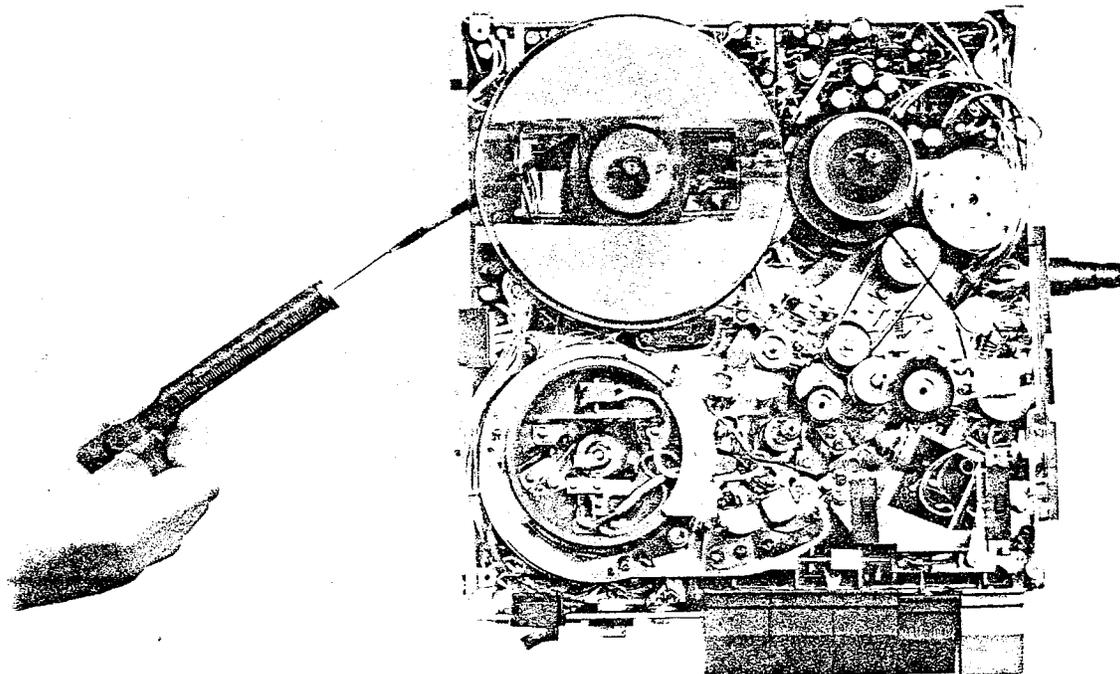

Fig. 7 Tape Hold Back Tension Measurement
- (a) As shown in Fig. 7, measure Tape Hold-Back Tension by connecting a 0 to 50 gram Spring Gauge to a 50 mm diameter tape. Specified tension is 8 to 10 grams.